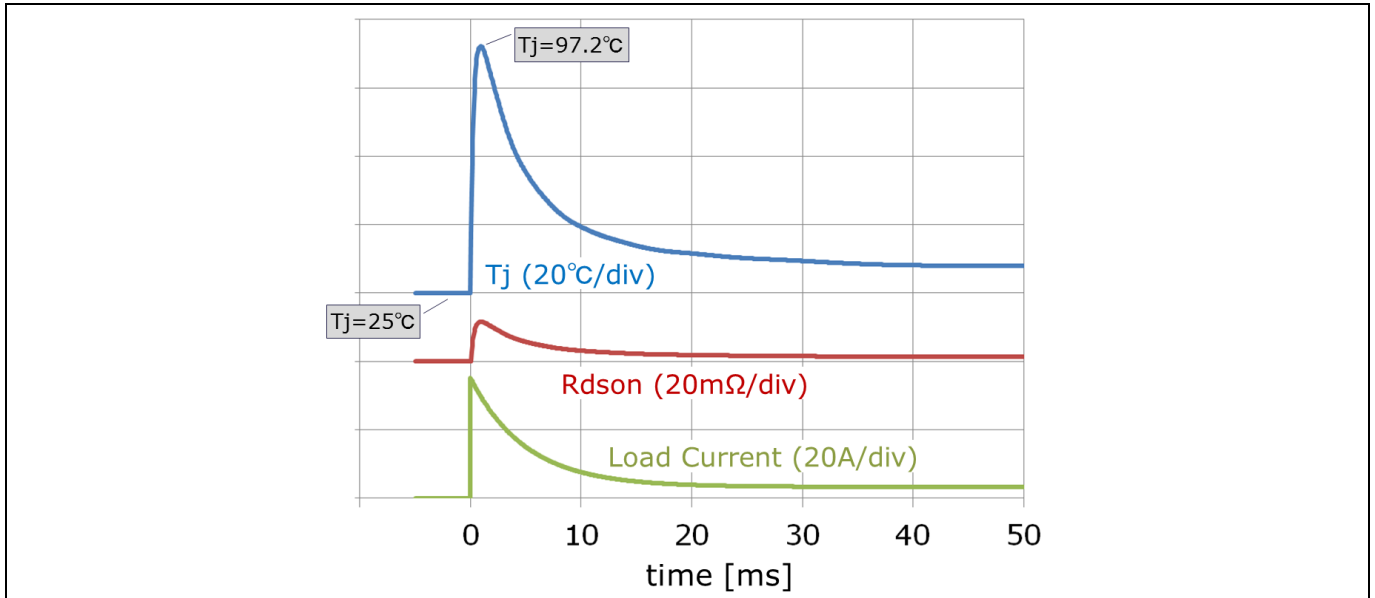

Figure 4 Thermal simulation results (BTF3035EJ, 40W) , condition A (Example) in the Table2
Readers should be aware of a general load current model and thermal performance of HITFET+ device used in this document. Because lots of thermal simulation results are used for the figures in this section in the background. **Figure 4** depicts a load current model and the thermal simulation results (Rdson and junction temperature) as an example.
- The thermal impedance of BTF3050TE is bigger than that of BTS142D for bulb applications. This tendency is same as **Figure 4**.